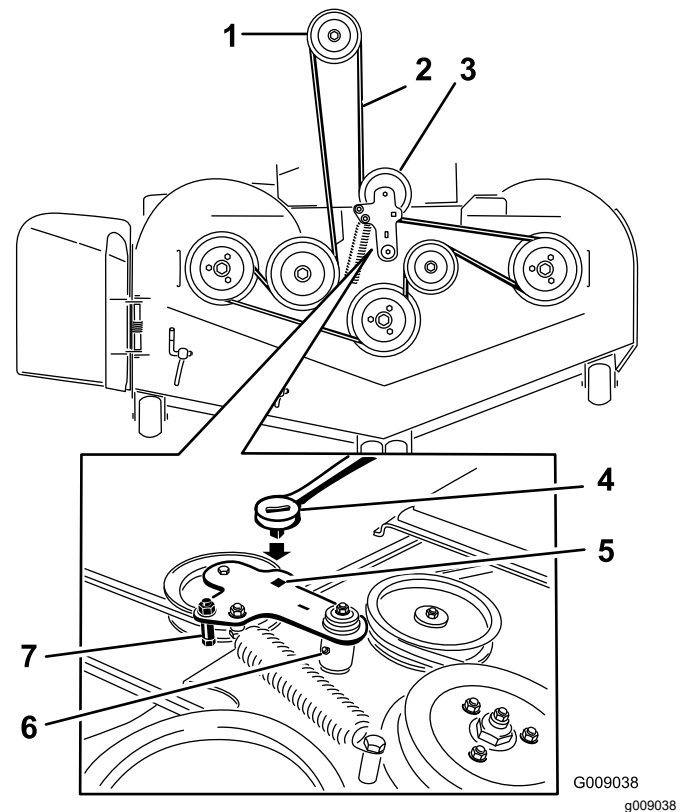
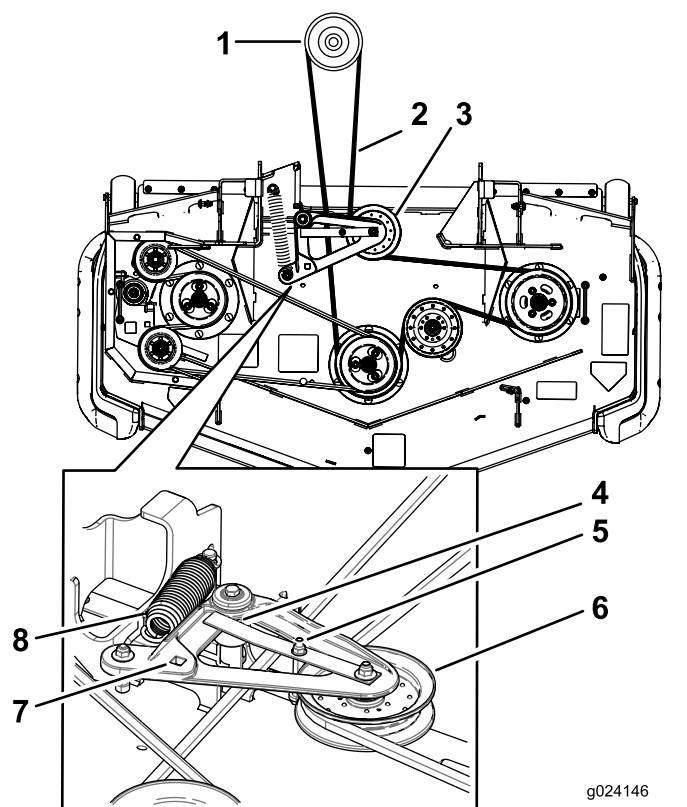

Figure 130
Figure 131
5. Lift up the floor pan and insert a ratchet into the square hole in the deck idler (Figure 130 or Figure 131).
6. Rotate the deck idler clockwise, lift up on the belt-guide tab (rear-discharge machines only), and remove the mower belt (Figure 130 or Figure 131).